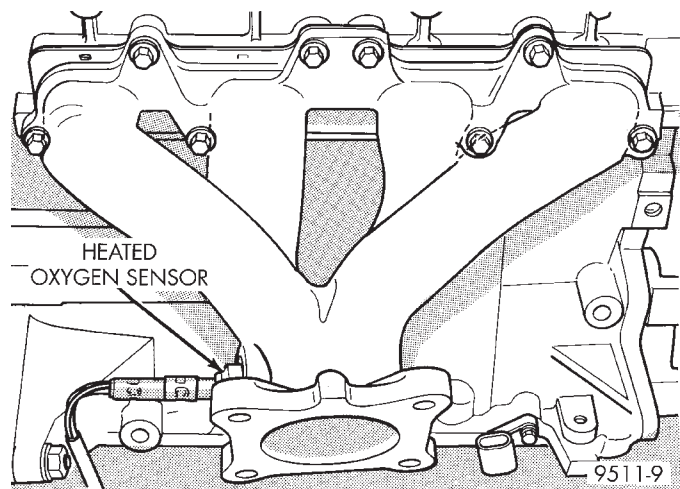

Fig. 27 Exhaust Manifold
- (3) Remove 8 exhaust manifold retaining fasteners and remove exhaust manifold (Fig. 27).